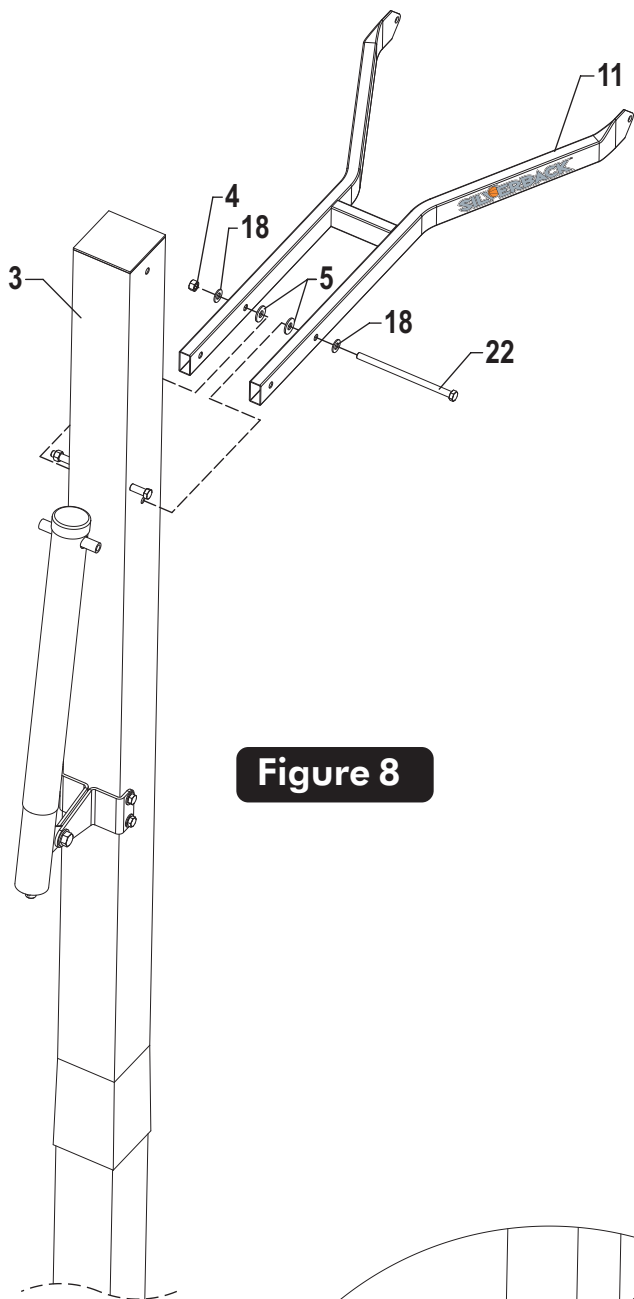

Figure 8
16. Attach lower arms (#11) to Top Pole (#3), as shown in **Figure 8**, using a hex bolt (#22), two flat washers (#18), two plastic washers (#5) and lock nut (#4).